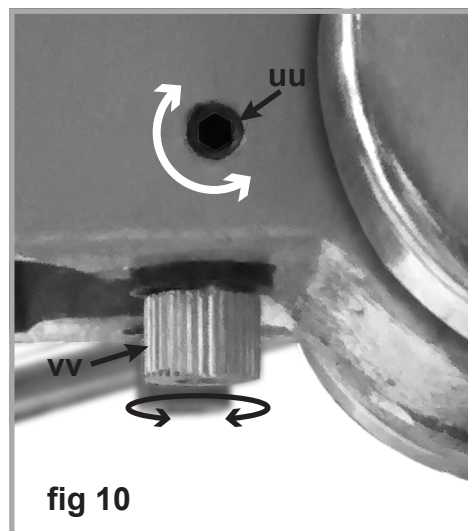

fig 10
- Using a 3 mm hex wrench, turn the laser adjustment hex set screw (uu, fig 10) on both sides of the drill press head casting (left side shown) adjacent to the laser aperture, counter-clockwise.
- Move the laser light housing (vv, fig 10) until the two lines intersect where the drill meets the work piece. DO NOT stare directly at the laser sources.